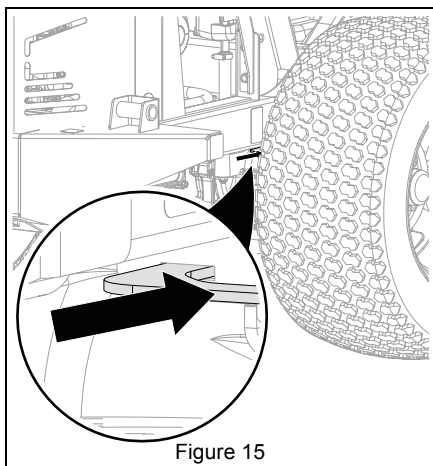

Figure 15
5. Return transaxle bypass levers to operating position. See Figure 15.